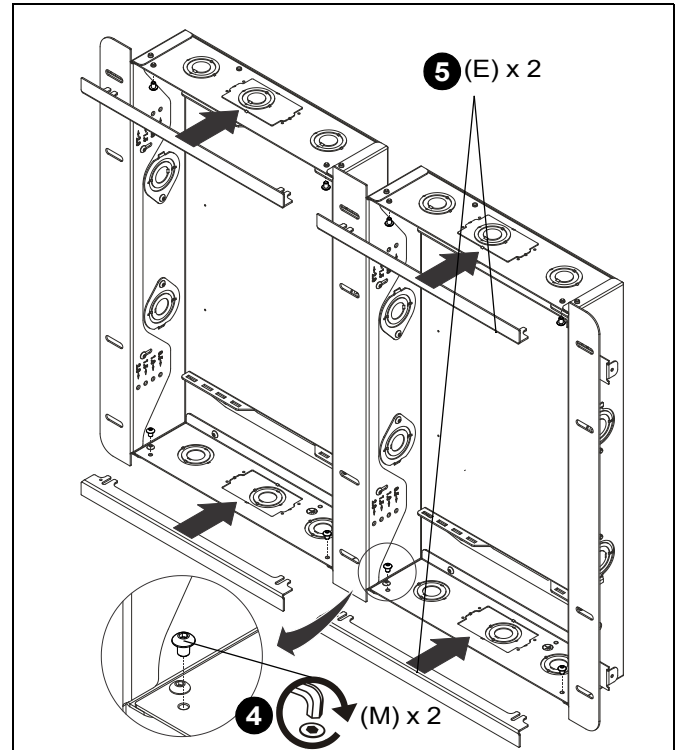

Figure 11
5. Slide two top/bottom flanges (E) under screws installed in Step 11 at top and bottom of each box. (See Figure 11)